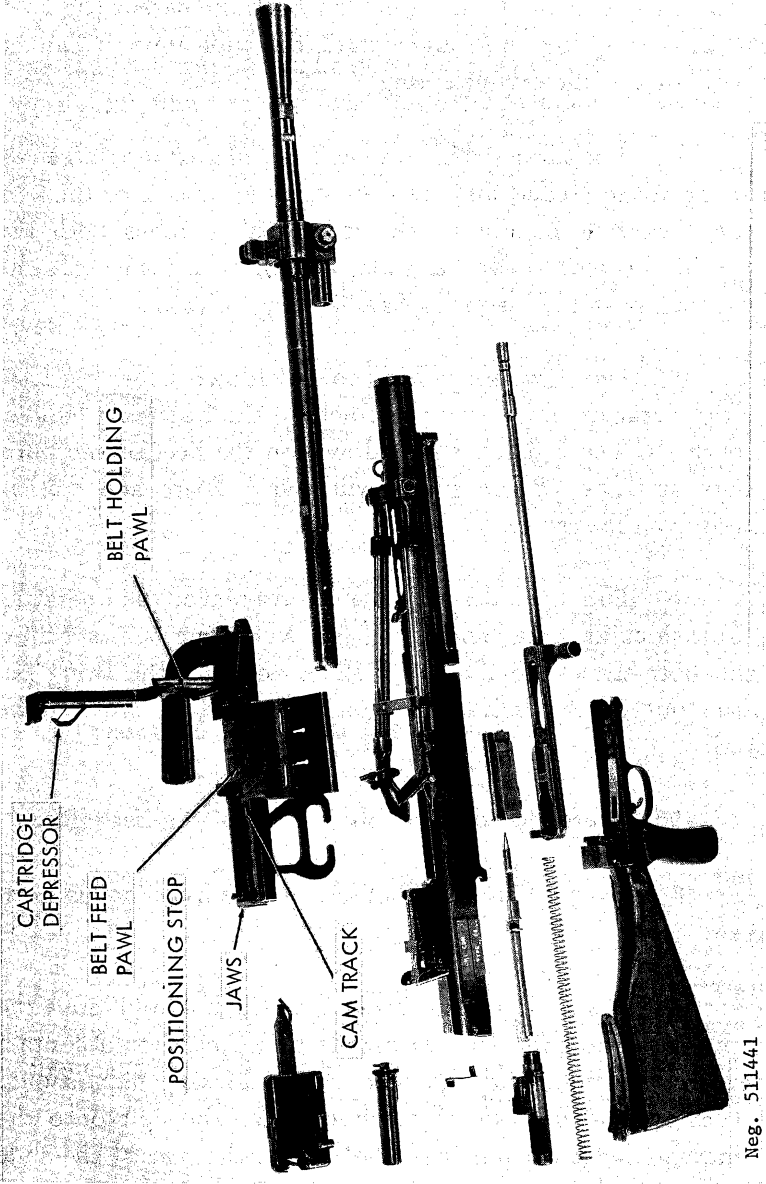

Figure 142. RP-46 field stripped.
e. The belt feeder of the RP-46 is powered by the recoiling operating handle. The handle fits inside the feed operating slide (fig 139), and, as the handle reciprocates, the feed operating slide also moves back and forth. The handle has some free travel in the operating slide so that full operating power is available to unlock the gun. As the feed slide moves rearward, a cam track (fig 142) on its horizontal top side moves a belt feed slide inward. The feed slide moves the first cartridge in the belt against positioning stops (fig 142), and the round is held there by a stationary belt holding pawl (fig 142) in the top cover. As the feed slide goes forward, the feed pawl moves outward and engages the next round to be fed.
f. The feed slide has a pair of jaws (fig 142) on its upper left side that grasp the rim of the cartridge positioned against the stops in the cover, and, as the feed slide moves rearward, the cartridge is extracted from the belt by these jaws and is moved rearward over the mouthpiece. A spring-loaded cartridge depressor (in the top cover) forces the cartridge down into position in the mouthpiece so that the bolt feed ribs can pick up the cartridge.